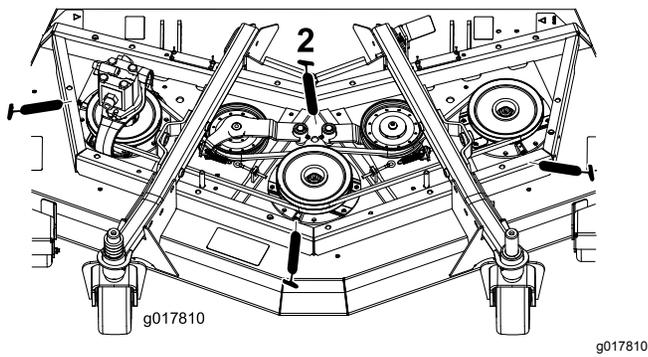

Figure 80
- 3 spindle-shaft bearings—located under the pulley (Figure 80)
- 2 idler-arm-pivot bushings (Figure 80)